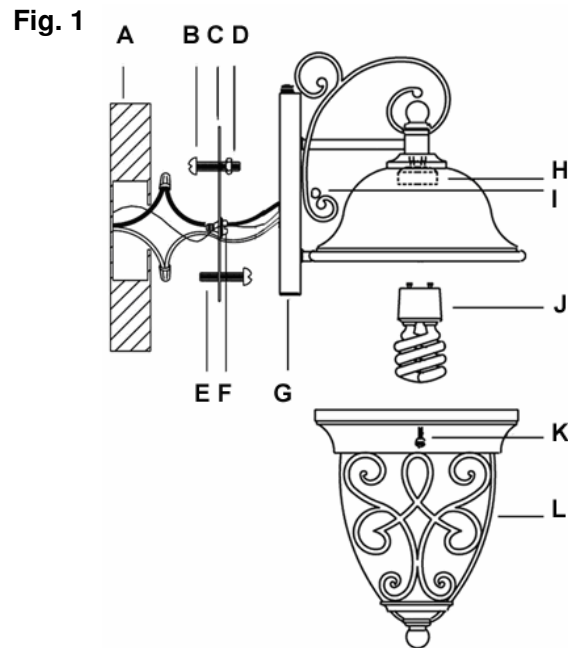

Fig. 2
3. Thread long support screws (B) into holes of the mounting strap(C). Secure with hex nuts (D). The support screws should be adjusted so they are long enough to protrude through the back plate(G) when mounted.
4. Fasten mounting strap(C) onto wall outlet box (A) using two shorter screws (E).
5. Connect the electrical wires as shown in Fig. 2. making sure that all wire connectors are secured. If your outlet has a ground wire (green or bare copper), connect the fixture's Ground wire to it. Otherwise, connect the fixture's Ground wire directly to the mounting strap(C) using the green ground screw (F). After the wires are connected tuck them carefully in the wall outlet box.